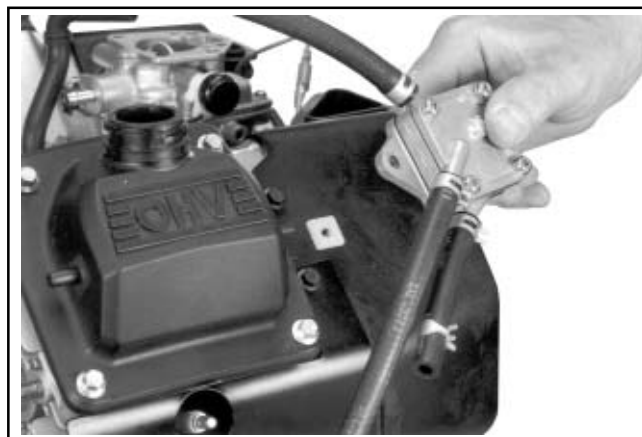

Figure 9-16. Remove Fuel Pump and Lines.
4. Note or mark the orientation of the fuel pump, then remove the fuel pump with lines attached as shown in Figure 9-16.